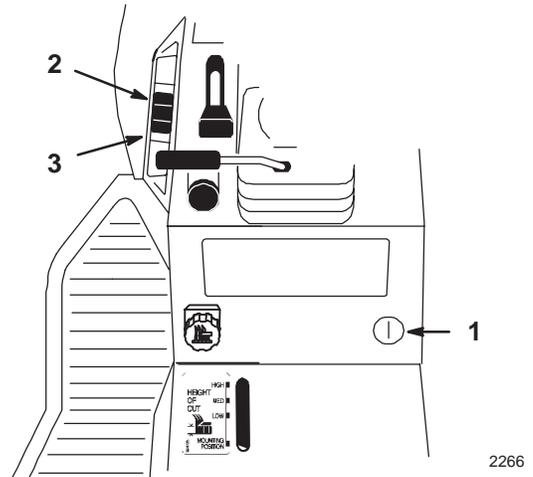

Figure 17
The attachment power lift (on some models) (Fig. 17) is used to raise and lower attachments.
1. Turn key to the “ON” or “RUN” position (Fig. 17).
2. Push the lift switch in the “UP” direction to raise the attachment lift (Fig. 17). This will lift and hold the attachment in the up, or raised position.
2. Push the lift switch in the “DOWN” direction to lower the attachment lift (Fig. 17). This will lower the attachment lift.